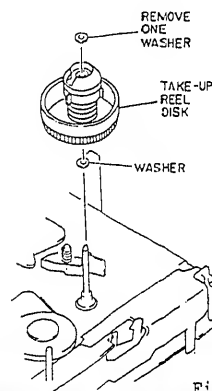

Fig. 2-71
1. Remove one (1) washer holding the take-up reel disk. (See Fig. 2-71)